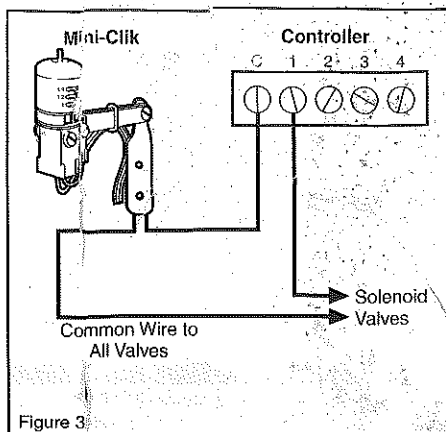

Figure 3
A. 24 Volt Solenoid Valves Only (No booster pump) (See Figure 3)